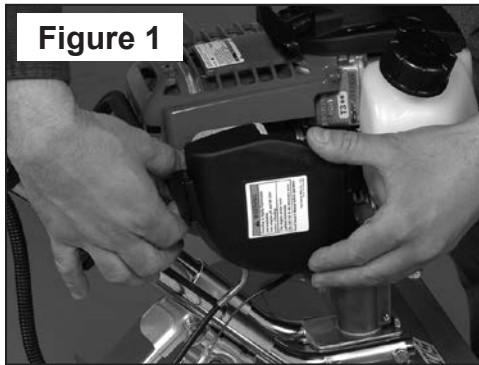

Figure 1
2. Squeeze the two locking tabs at the rear of the air cleaner cover (**Figure 1**) and swing the cover towards the front of the engine to open it